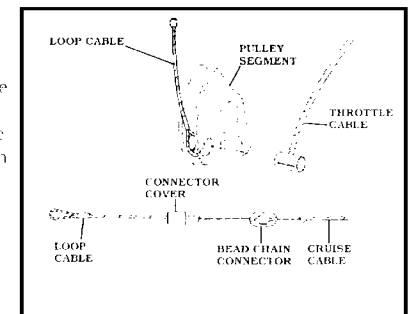

Figure 9
3. Hold the LOOP CABLE between the holes in each side of the pulley. Slide the barrel at the end of the throttle cable through the slotted hole, then through the LOOP CABLE and into the second hole. **Figure 9**